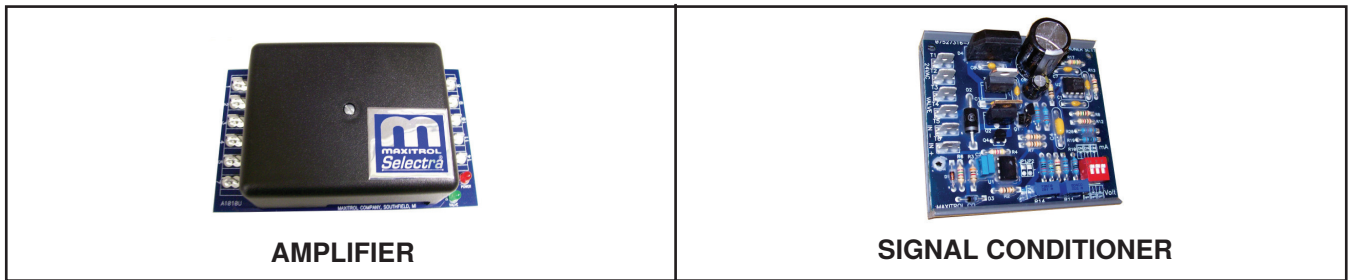
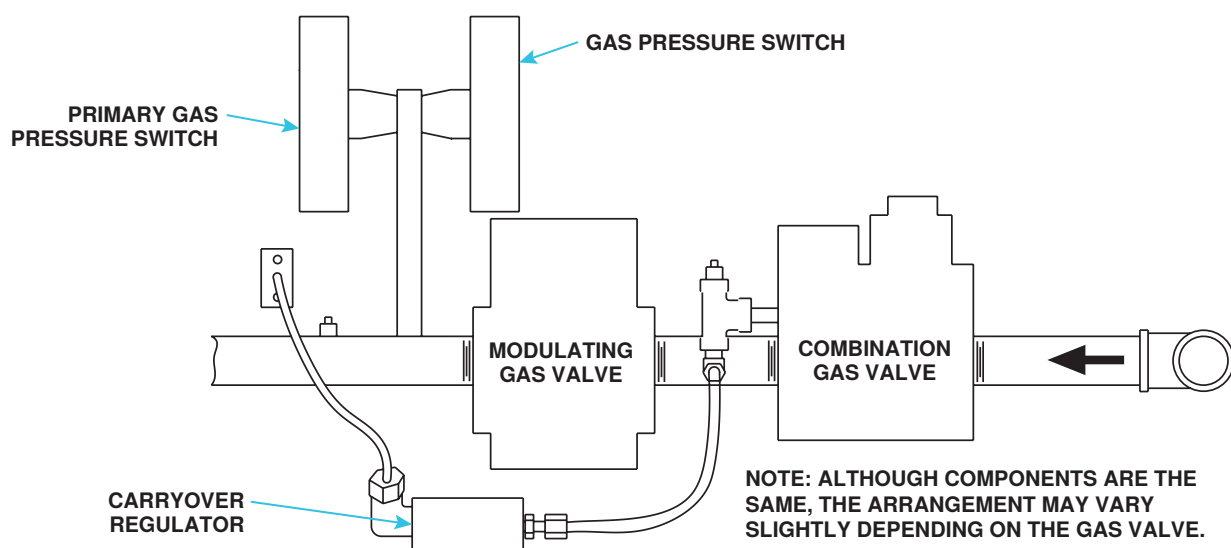

Figure 30. Maxitrol Amplifier and Signal Conditioner
Figure 31. Typical Manifold Arrangement with Electronic Modulation
- **Electronic modulation between 50% and 100% firing rate (option AG8):** Electronic modulation for makeup air application that is controlled by a duct sensor and temperature selector (55–90°F (12.8–32.2°C)). The temperature selector setting for option AG8 is on the amplifier (see Figure 30). Option AG8 is available with an override thermostat.
- **Electronic modulation between 50% and 100% firing rate (option AG21):** With option AG21, the furnace is equipped with a Maxitrol signal conditioner (see Figure 30) that operates much the same way as the amplifier above to control the regulator valve. The signal conditioner accepts an input signal of either 4–20 milliamps or 0–10V from a customer-supplied control device such as a computer. With the dip switches on the conditioner positioned to ON, the conditioner accepts a 4–20 milliamp signal. With the dip switches on the conditioner positioned to OFF, the conditioner accepts a 0–10V signal. The conditioner converts the signal to the 0–20V DC current required to control the modulating valve.
- Electronic modulation between 20–28% and 100% firing rate (option AG39):** Depending on its size, a furnace equipped with option AG39 has a 20–28% turndown ratio. The furnace will ignite at any input rate in the available range and will maintain average thermal efficiencies equal to or greater than the thermal efficiency at full fire. The gas train (see Figure 31) includes a single-stage gas valve, a modulating valve, and two gas pressure switches. The burner rack is equipped with one flash carryover and a regulated gas lighter tube system. The carryover lighter tube receives its gas supply through the regulator simultaneously with the gas to the burner. Control of the system is through a Maxitrol amplifier (see Figure 30) with a corresponding remote temperature dial. The gas supply (refer to pressure requirements in Table 18) connects to the single-stage gas valve. To compensate for additional pressure loss through the modulating valve, the single-stage gas valve has a custom outlet pressure setting higher than when it is used on a standard gas manifold. The pilot tubing connects to the pilot port on the single-stage gas valve. When the valve receives a call for heat from the amplifier and pilot is established, gas flow from the single-stage valve goes to both the modulating valve and the regulated lighter tube system. When the signal from the amplifier to the modulating valve requires less-than-high fire operation, the modulating valve functions to lessen the gas flow to the burner to reduce the input rate to that which is necessary to maintain the desired temperature. When the input rate is reduced enough to decrease the gas pressure to 1.1 IN WC, the primary gas pressure switch in the manifold activates the gear motor that controls the bypass damper in the venter/combustion air system. The bypass damper opens to divert some of the incoming air directly into the flue duct to reduce air flow through the burner. Safety switches monitor the position of the bypass damper. When the gas pressure rises to >1.1 IN WC, the bypass damper closes. Although the sensor has a mixing tube, at this distance from the discharge it does not receive a true mix, so the temperature read by the sensor will be slightly higher than the actual air entering the ductwork. The system will provide comfort level heat if the selector is set slightly higher to compensate for this reading. If a direct correlation of these two temperatures is required, move the duct sensor to a location in the ductwork about 10–12 feet (3–3.7 meters) from the furnace discharge. This uniquely-designed modulation system requires combustion air pressure settings different from the standard system. Refer to Table 16 for the approximate combustion air proving switch settings at sea-level operation. Refer to the Troubleshooting Bypass Combustion Air Damper Safety Circuit on Units with Option AG39 or AG40 section for troubleshooting.
- **Electronic modulation between 20–28% and 100% firing rate (option AG40):** With option AG40, the furnace is equipped with a Maxitrol signal conditioner (see Figure 30) that receives an input signal of either 4–20 milliamps or 0–10V from a customer-supplied control device such as a computer. With the dip switches on the conditioner positioned to ON, the conditioner accepts a 4–20 milliamp signal. With the dip switches on the conditioner positioned to OFF, the conditioner accepts a 0–10V signal. The conditioner converts the signal to the 0–20V DC current required to control the modulating valve. The heater functions and is equipped in the same way as option AG39 except that with computer control, the temperatures are selected through the software and there is no temperature selector or duct sensor. This uniquely-designed modulation system requires combustion air pressure settings different from the standard system. Refer to Table 16 for the approximate combustion air proving switch settings at sea-level operation. Refer to Table 18 for pressure requirements. Refer to the Troubleshooting Bypass Combustion Air Damper Safety Circuit on Units with Option AG39 or AG40 section for troubleshooting.